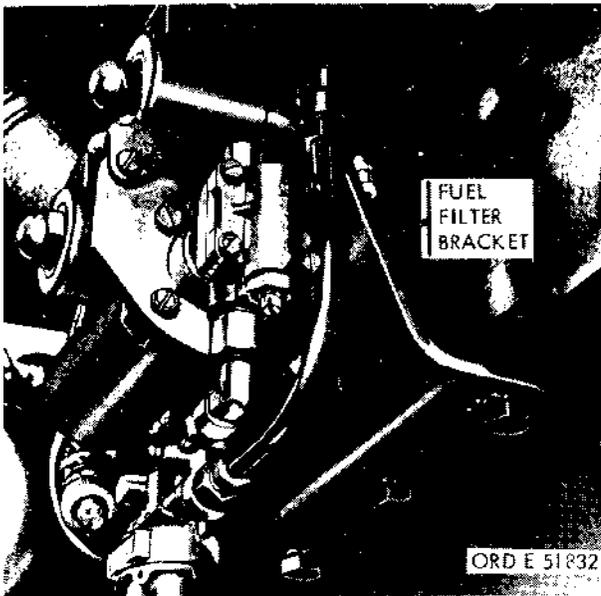

Figure 2-111. Removing manifold heater fuel filter—multifuel models.
(2) Remove the screws and lockwashers securing the filter to the bracket (fig. 2-111).
(3) Remove the ground wire and fuel filter.
- (1) Secure the ground wire and filter to the bracket with lockwashers and screws (fig. 2-111).